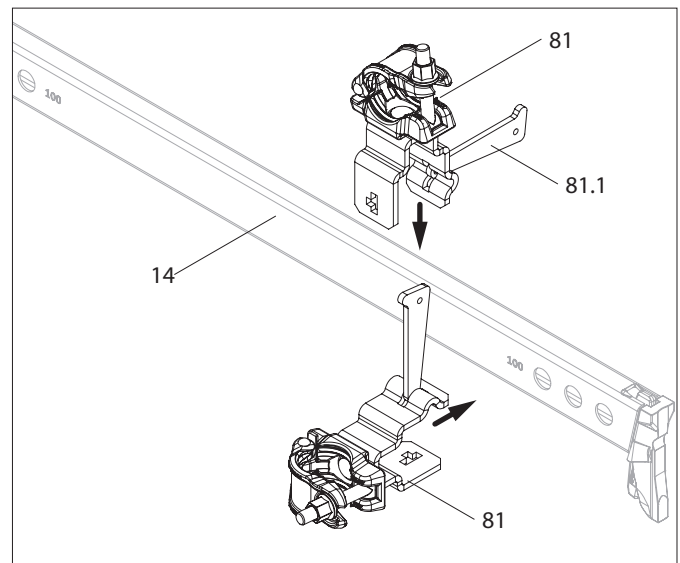

Fig. A10.03a
1. Pull the wedge (81.1) out of the clamping part and put the clamping part over the horizontal ledger (14) from the side or from above. (Fig. A10.03a)